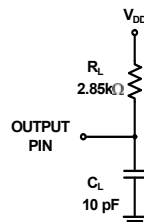

FIGURE 2. EQUIVALENT LOAD CIRCUIT
9. During characterization, $t_{DISABLE}$ is measured from the release point with a 10pF load (see Figure 2 on page 8) and the equivalent timing using the AD7450 loading (50pF) is calculated.